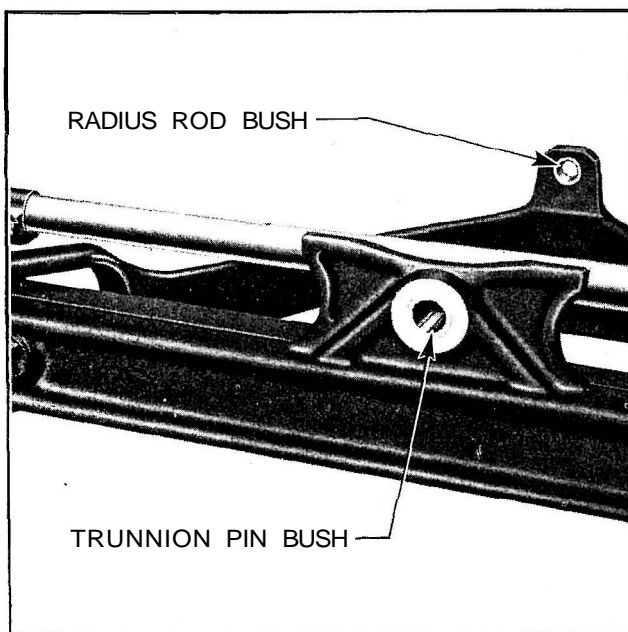

Fig. 206
- 3 Drive out the bush, using the tool No. Tr/NMD 3005-AB (see Fig. 206).